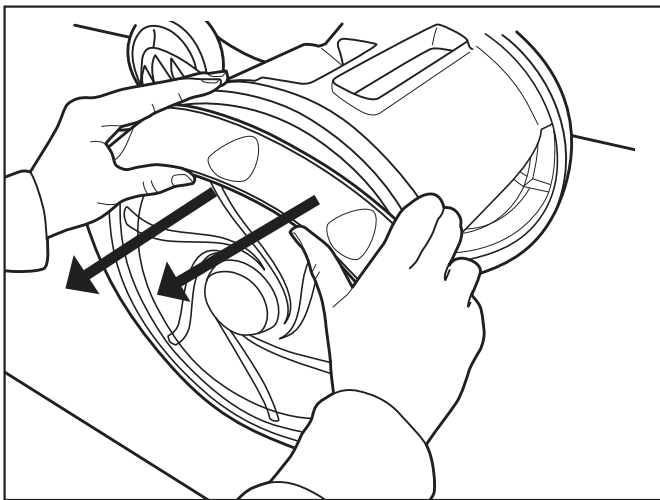

Figure 18. Remove the Old Tire From the Cleaner
2. Remove the old tire as shown in Figure 18.